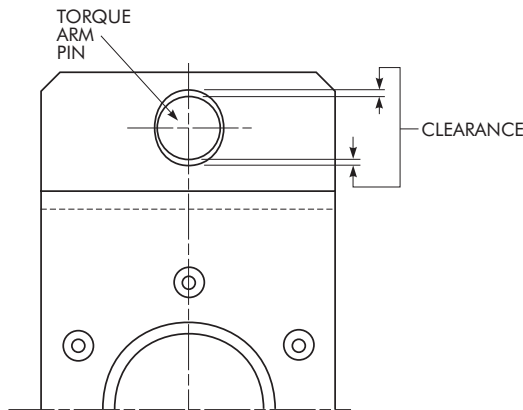

**FIGURE 1**
2. Install anchor bracket if necessary by removing the appropriate high speed head fasteners to allow anchor bracket to be centered above the high speed shaft (see Figures 1 & 2 ). Mount anchor bracket and insert the longer fasteners and lock washers that were supplied with the backstop kit. Tighten fasteners to values shown in Table 1.